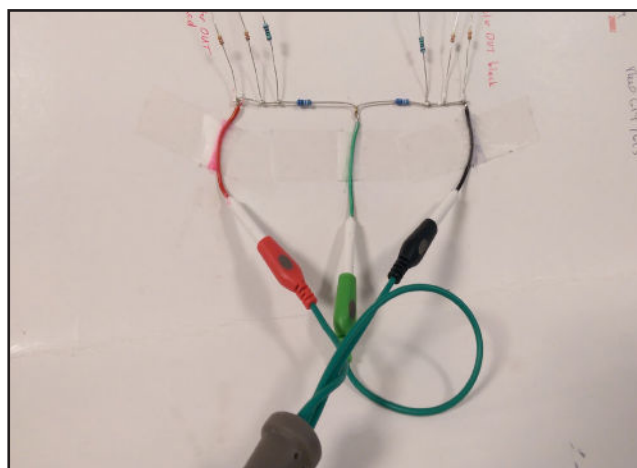

FIGURE 5
- Connect the Channel 1 sEMG lead wires into the Attenuator. Make certain each sEMG Lead is connected to its respective color on the Attenuator. See **Figure 5**.